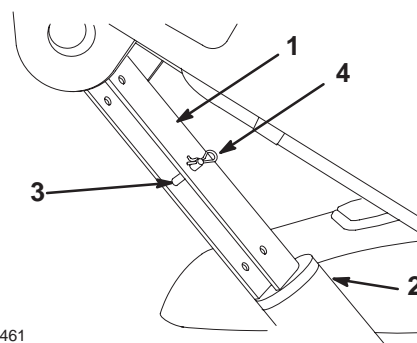

Figure 22
- Remove the hairpin cotter and clevis pin securing the cylinder lock to the frame (Fig. 22)
- Place the cylinder lock over the cylinder rod and secure it with the clevis pin and hairpin cotter (Fig. 22).
- Place the cylinder lock in its storage location on the frame and secure it with the clevis pin and hairpin cotter (Fig. 22).